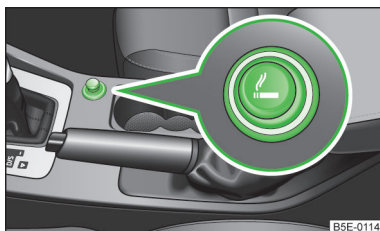

Fig. 64
- Press in the button in the cigarette lighter » Fig. 64.